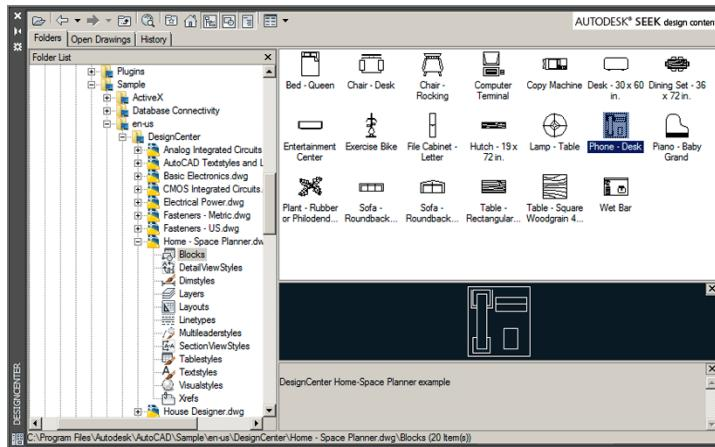

FIGURE 9.20 Inserting content from Autodesk DesignCenter into a drawing
10. Type ADC and press Enter to launch Autodesk's DesignCenter, an older interface for accessing global blocks. Navigate to the folder shown at the bottom of Figure 9.20 and expand the Home – Space Planner.dwg sample file. Select the Blocks node in the folder tree to display this drawing's block files. Drag and drop the Phone – Desk global block from this drawing into the current drawing and then move it onto the Receptionist's desk.